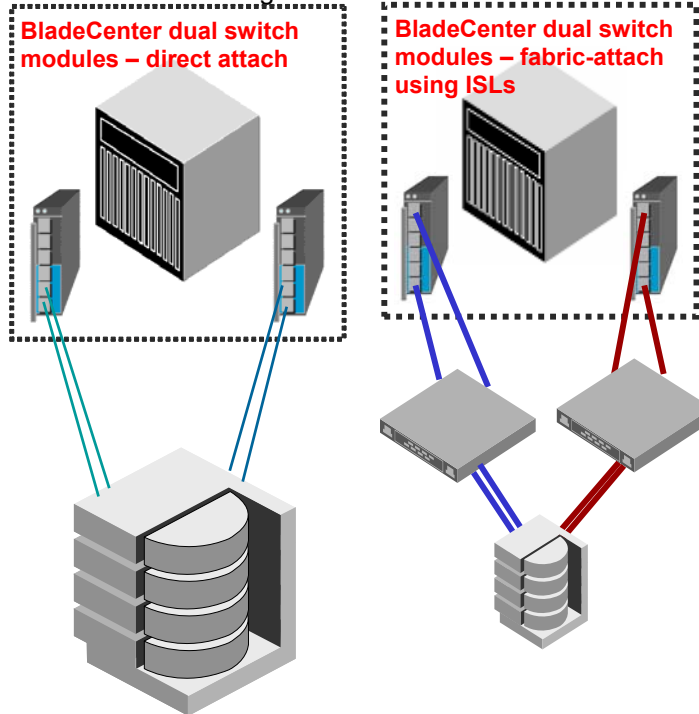

Figure 1) BladeCenter direct attached and using ISLs.
This document describes in detail the process that you must go through to set up an FCP SAN boot for IBM BladeCenter servers using a LUN from an FCP SAN attached Network Appliance storage system. This process is intended for a configuration of a Blade Center directly connected to the Network Appliance storage system using Fibre Channel (FC) cables, as shown in Figure 1. If the blade server is connected to the NetApp storage system via Inter-Switch Links (ISLs) to external FC switches, reference the IBM Interoperability Matrixes and switch user guides for instructions to correctly integrate the BladeCenter into a SAN.